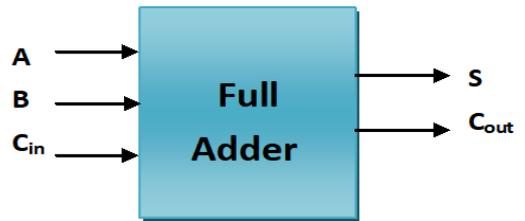

Fig. 3.4: “Truth table” and “block diagram” of “Full adder”
A “full adder” is a type of “arithmetic circuit” that “adds three binary bits”. It produces results “Sum” (S) and “Carry” (Cout) at the output. The “truth table” and “block diagram” are given in Fig. 3.4.
The “Sum” (S), “Carry” (Cout) are given below using truth table given in Fig. 3.4.-